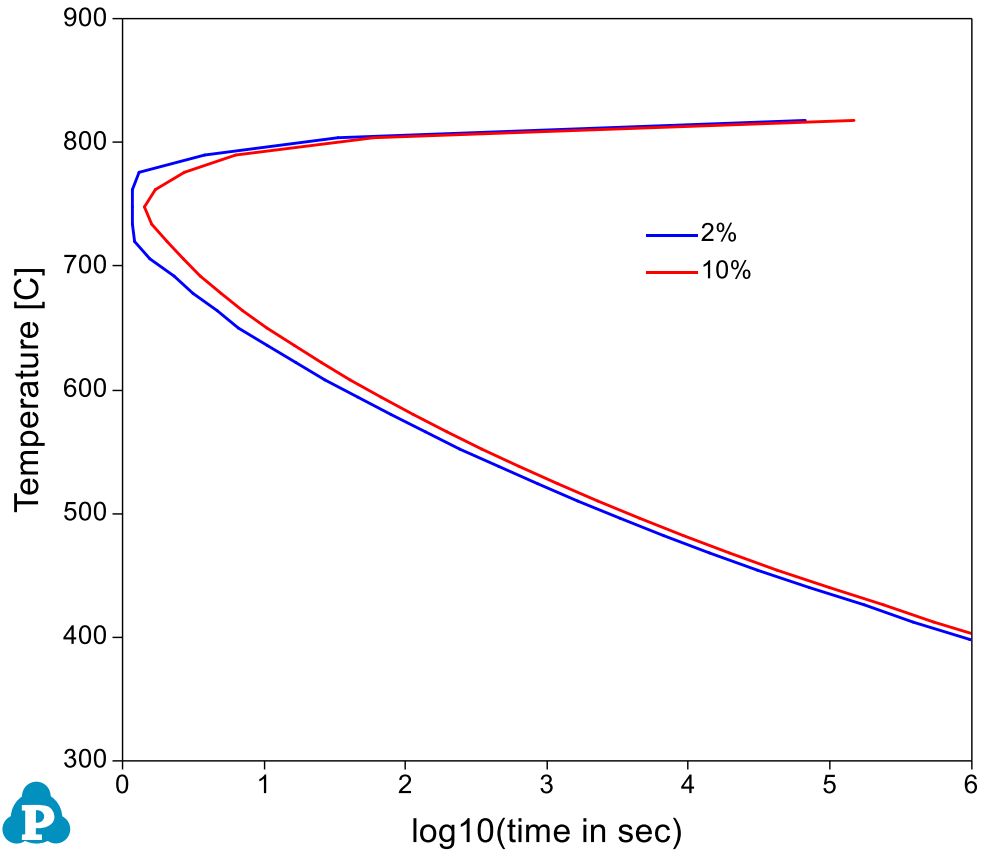

Figure 3.2.3: Comparison of TTT curves for Ni-14Al (at%) when 2% or 10% of equilibrium L12_FCC formed
- Perform another calculation for 10% and merge the two plots as shown in Figure 3.2.3;